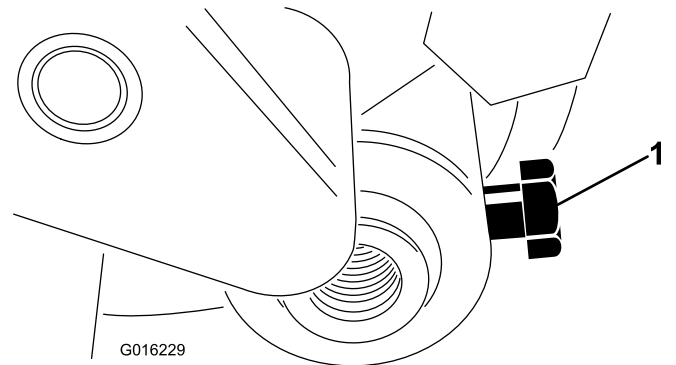

Figure 12
24. Insert the roller shaft into the right adjuster arm and loosely secure it with the roller shaft bolt (Figure 12).
32. Center the roller between the adjuster arms and tighten the mounting bolts (Figure 12).